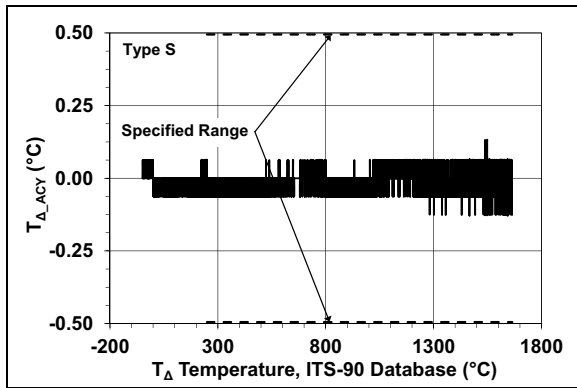
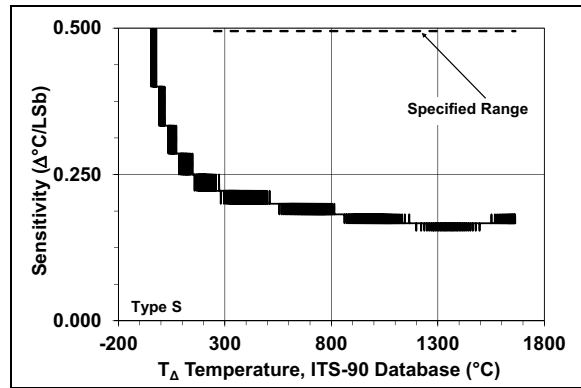

FIGURE 2-7: Typical Temperature Accuracy from NIST ITS-90 Database, Type S.
FIGURE 2-10: Temperature Sensitivity with 18-bit Resolution, Type S.
- 2:** The device measures temperature below the specified range, however the sensitivity to changes in temperature reduces exponentially. Type R and S measure down to -50°C , or -0.226mV_{EMF} and -0.235mV_{EMF} , respectively. Type B measures down to 500°C or 1.242mV_{EMF} (see Figures 2-7, 2-8, 2-14 and Figures 2-10, 2-11 and 2-17).